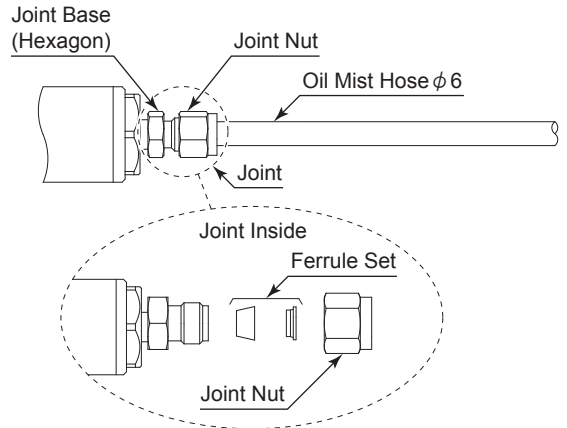

Fig. 17
- (3) Secure an adjustable wrench or 14mm open-end wrench (Wrenches not included ) to the base (hexagon part) of the Joint, then tighten the Joint Nut securely by using an adjustable wrench or 14mm open-end wrench (Fig .17).